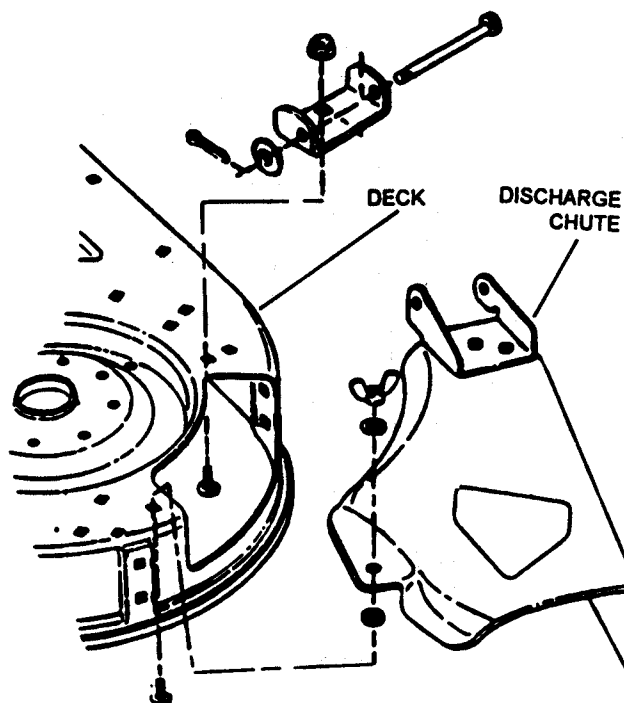

FIGURE 4
STEP 4: Adapter Installation. Remove the front and rear gage wheels located on the right side of tractor. The right side as viewed from operator's position. Save retaining hardware and gage wheels for future use. It will be necessary to raise the tractor to gain access to the underside of deck. Use a hydraulic floor jack or hoist to raise tractor high enough to gain access to the underside of deck. Secure tractor with safety blocks. Remove the discharge chute. See Figure 4. STEP 4 is continued on next page.